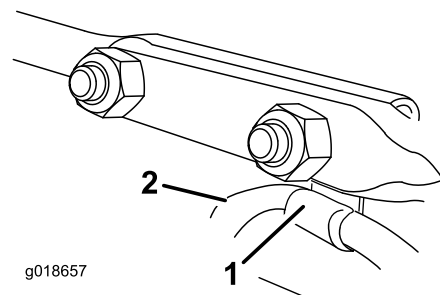

Figure 16
6. Insert the cable clip that supports the deflector cable under the head of the forward carriage bolt, and secure the carriage bolts with locknuts from the loose parts bag (Figure 16).